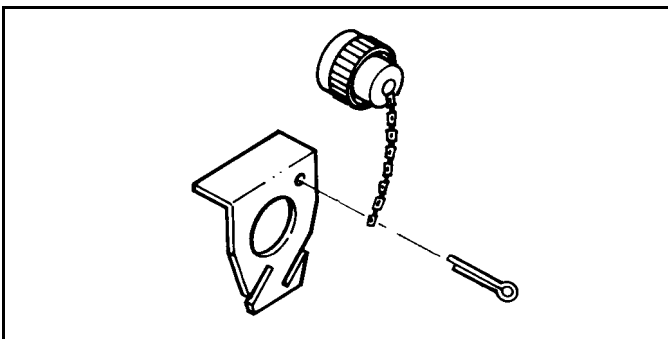

Figure 1-8
23. Attach the protective cover to the mounting bracket by spreading the cotter pin, placing one side of the pin through the end of the chain, closing the pin, inserting it through the small hole in the bracket and spreading both ends of the pin. (See Figure 1-8)